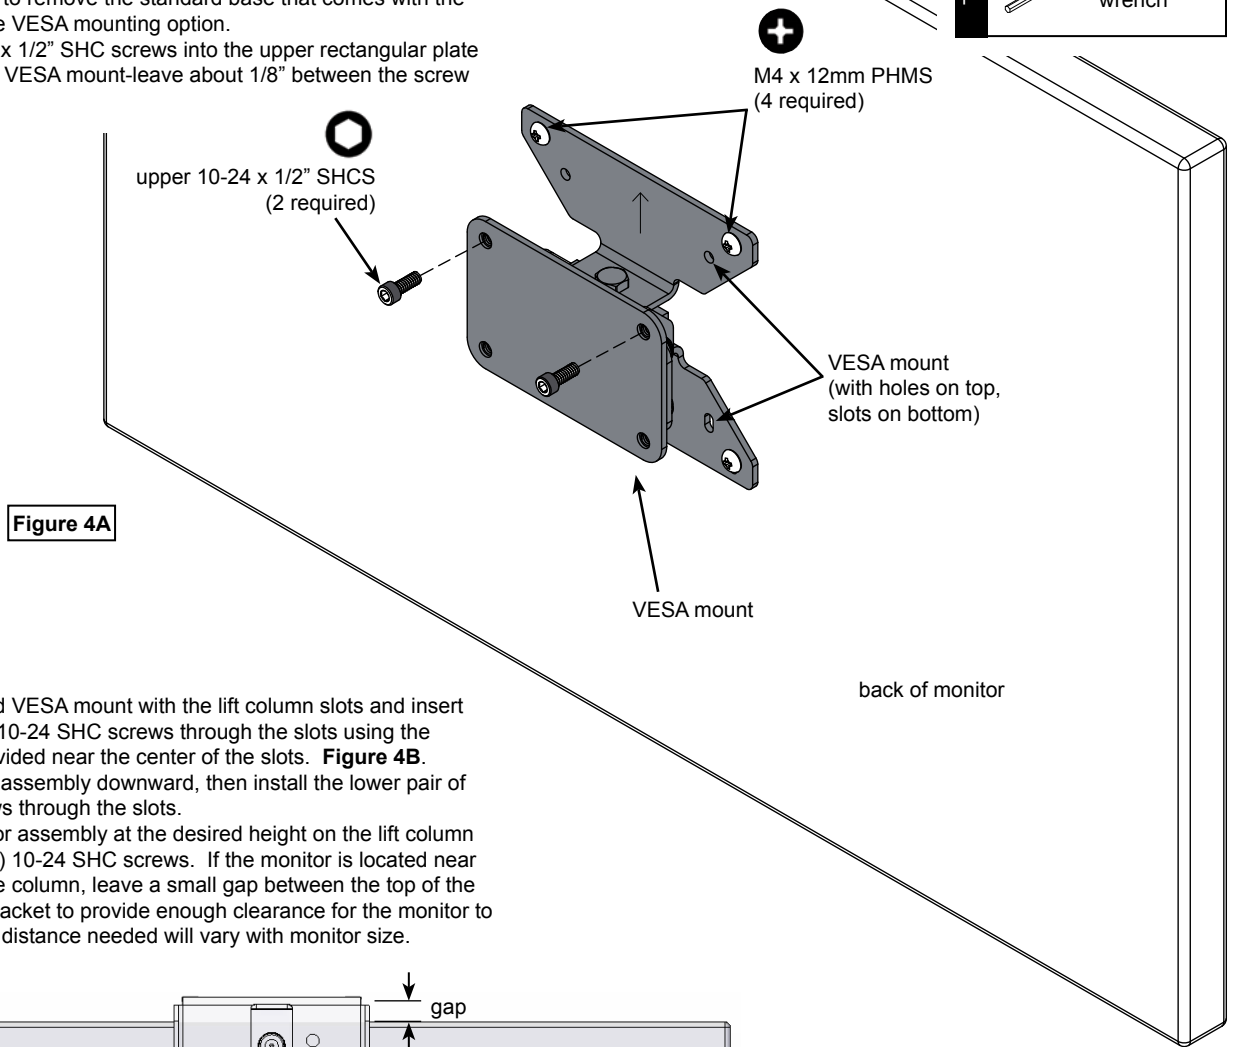

Figure 4A
1. Attach the VESA mount (butterfly-shaped portion) to the back of your flat panel monitor with (4) M4 x 12mm PHM screws. (Holes on top, slots on bottom). **Figure 4A.** Note: On most flat panel monitors, it will be necessary to remove the standard base that comes with the monitor to use the VESA mounting option.
2. Thread (2) 10-24 x 1/2" SHC screws into the upper rectangular plate at the back of the VESA mount-leave about 1/8" between the screw head and plate.